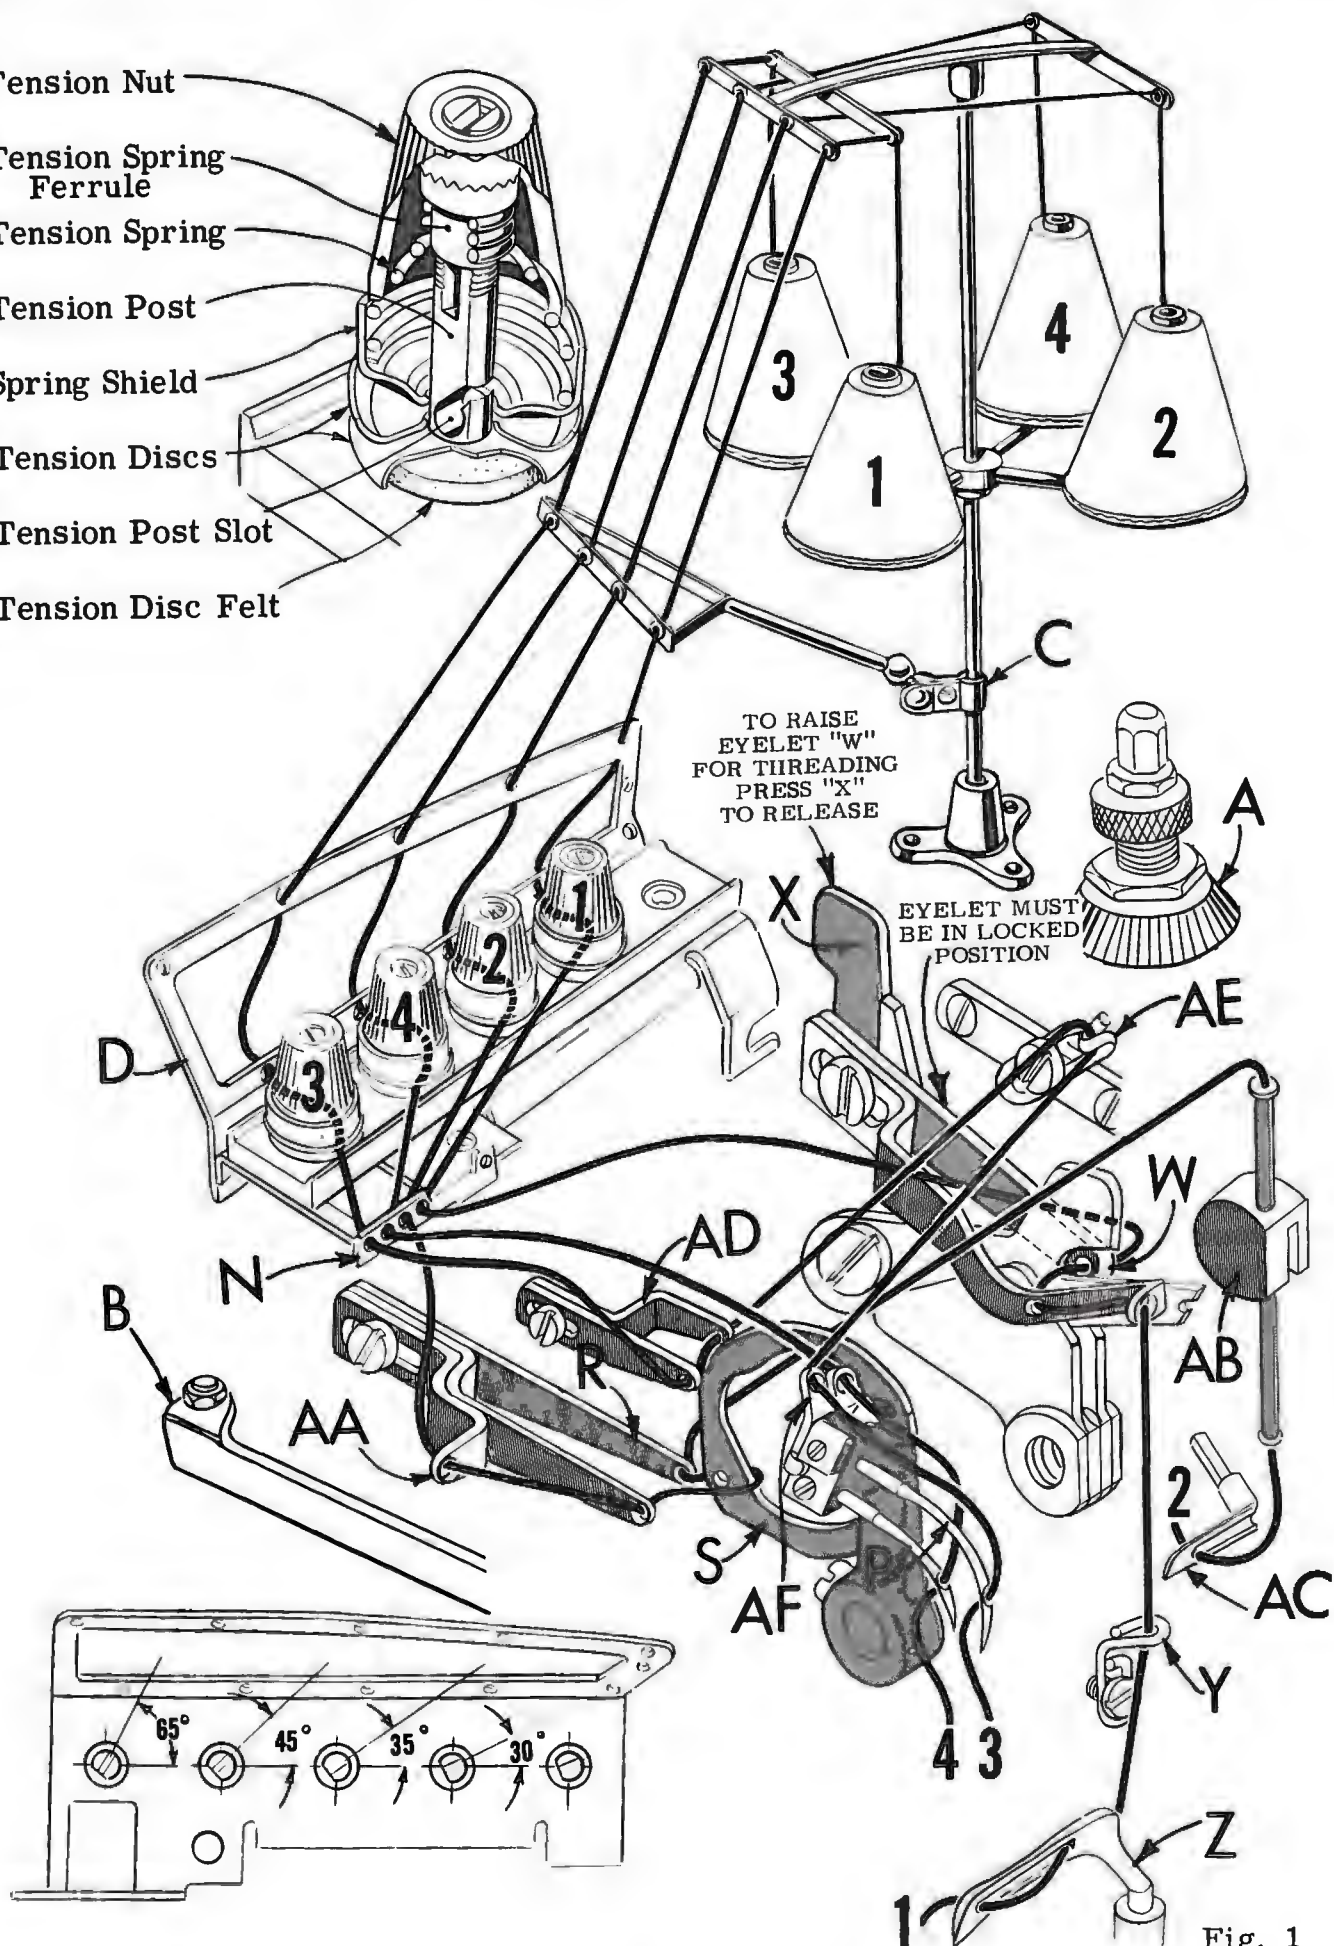
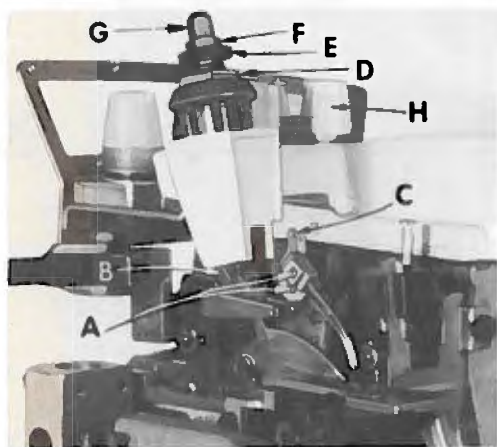

Fig. 1
Fig. 2
Release pressure on presser foot by turning the presser foot release bushing (A, Fig. 1 or 1A) and swinging presser arm (B) out of position. Turn handwheel in operating direction (away from operator) until needle holding screws (A, Fig. 2) are just exposed from behind presser spring plunger (B) and accessible to screwdriver. Loosen screw and withdraw needle. When replacing needles observe the position of the flat which is at the left of the shank and be sure the needle is inserted the full depth to the combination eyelet and stop plate (C).
Only parts involved in threading are shown in threading diagrams (Fig. 1 and 1A). Parts are placed in their relative positions for clarity.
The amount of tension on the needle and looper threads is regulated by the knurled tension nuts (E, Fig. 1). Tension on the threads should be only enough to secure proper stitch formation. Using a postal scale, the measurements are taken with the needles at the top of their stroke and pulled in the direction as indicated. As a start the tensions for the 515 stitch type may be as follows:
Sufficient pressure to feed work uniformly should be maintained. Should it be necessary to increase or decrease amount of pressure on presser foot loosen lock nut (D, Fig. 2) and turn the adjusting screw (E). Adjusting screw has a right hand thread so tightening increases the pressure, loosening decreases pressure. When pressure adjusting screw (E) has been properly set, tighten lock nut (D). With presser foot resting on the throat plate, position locking nut (F) so that its under surface is approximately 1/32 inch to 1/16 inch from the top surface of adjusting screw (E). Set the cap (G) against the locking nut (F).
Release the pressure on presser arm and swing arm out of position. Insert both needles (Type 161 GS for the 401 stitch and Type 154 GAS for the overedge stitch) into the left and right holes, respectively, of the needle driving arm (A, Fig. 3), so that the butt ends contact the needle driving arm thread eyelet (C, Fig. 2). Secure needles in this position with clamp screws (A, Fig. 2).
For convenience the looper may now be threaded as shown in (Fig. 1 or 1A) and as described under paragraph "To Thread 401 Looper". Replace differential feed dog, throat plate, lower knife holder and reset upper knife. Check cutting action with thread.